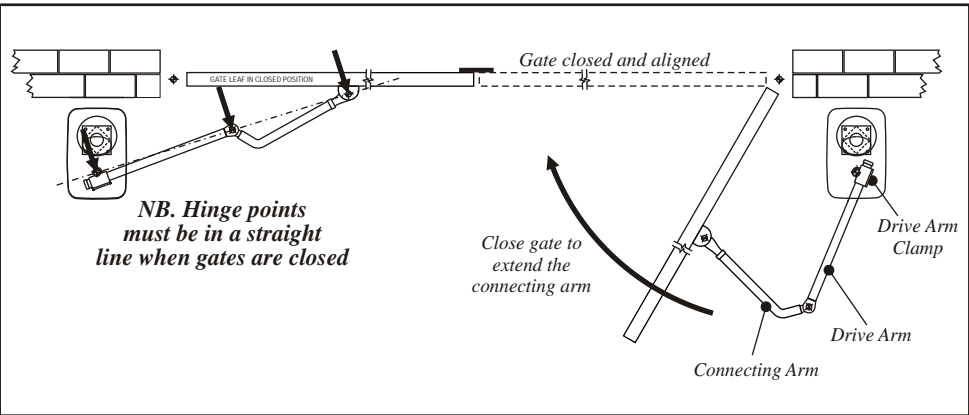

Figure 22 Align Gates
15. Using the gate as a lever, slowly close the gate to extend the connecting arm. When the gate is completely closed, the hinge points of the connecting and drive arms must be in a straight line (see Fig. 22).
18. When the connecting and drive arm hinge points are in a straight line (Fig. 22), release the TEST button. (The gate will now be in the CLOSED position). Light L1 must now be OFF when setting the Master, or L2 OFF when setting the Slave motor.